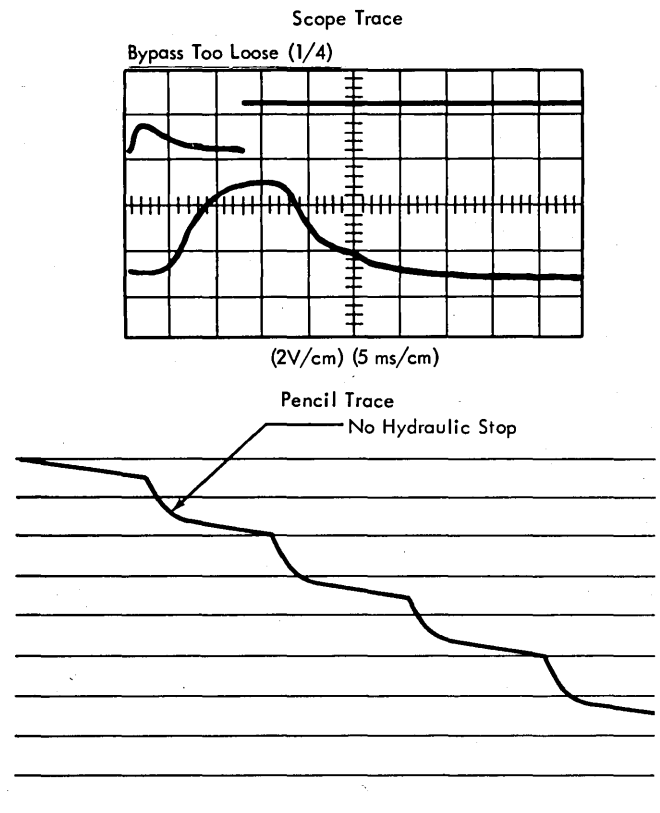

Figure 4-71. Bypass Too Loose
9. Tighten the lock screw (right rear) and recheck the adjustment by making new line graphs or scope traces. A line graph having relatively square corners followed by carriage drift, or a scope trace indicating light hydraulic bounce verifies that the bypass needle valve is in correct adjustment. Notice that incorrect adjustment indications result from as little as one quarter turn of the bypass needle valve from its correctly adjusted position. Figure 4-71 shows the results produced if the bypass is adjusted too loosely.